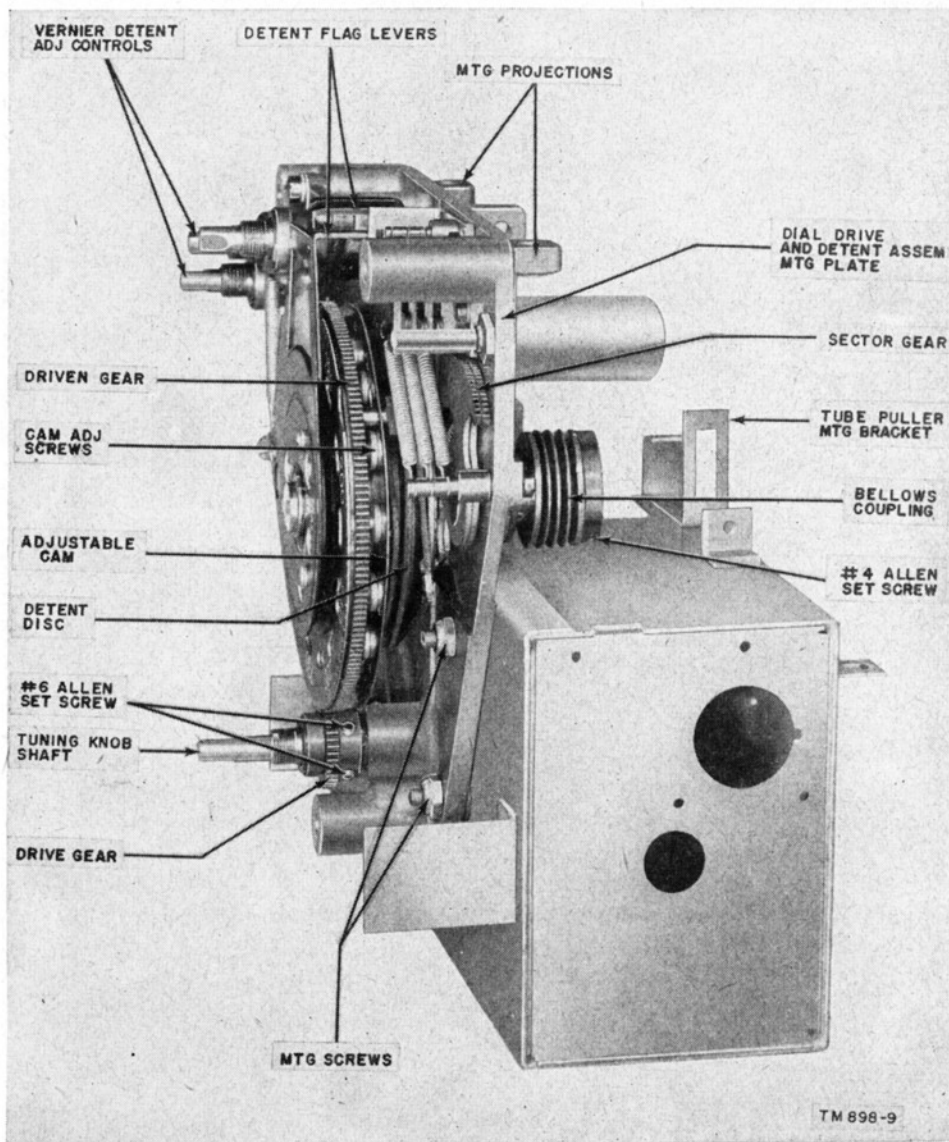

Figure 9. Dial drive and detent assembly, side view.
b. DIAL DRIVE. As shown in figure 9, the dial is gear driven. The ratio of the drive gear (on the TUNING knob shaft) to the large gear (lo-
1 tube puller, Kellem type 11-16 (fig. 9).